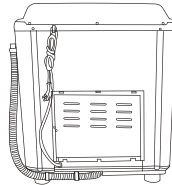

Figure 5
- Then hang the drain hose into the hanging hole at the spin tub side. (As per Figure 5).